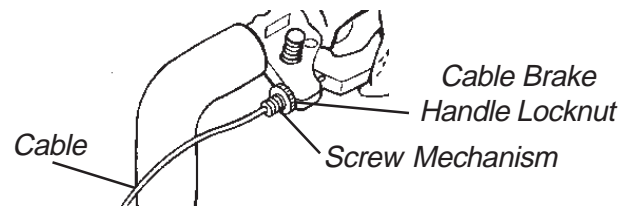

FIGURE 6 - ADJUSTING CABLE BRAKE HANDLE
ADJUSTING SPRINT AND SPARTAN PUSH HANDLES (FIGURE 6)
2. Ensure that the push handle is adjusted **ONLY** where the tubing is textured (FIGURE 6).
Adjusting Cable Brake Handle (FIGURE 6) (Before 3/7/00)